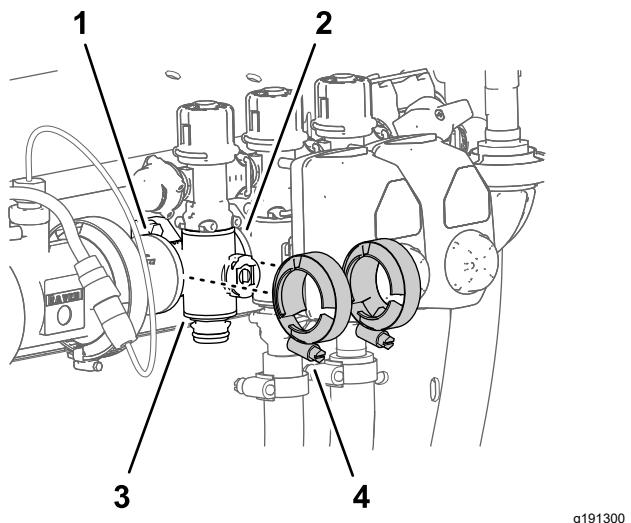

Figure 134
4. Loosely assemble the flange clamps that you removed in Removing the Section-Manifold Valve \(page 85\) to the flanges of the section-valve manifold and the flanges of the other section-valve (s) and/or coupling adapter (Figure 134).
7. Tighten the 2 flange clamps by hand (Figure 134).